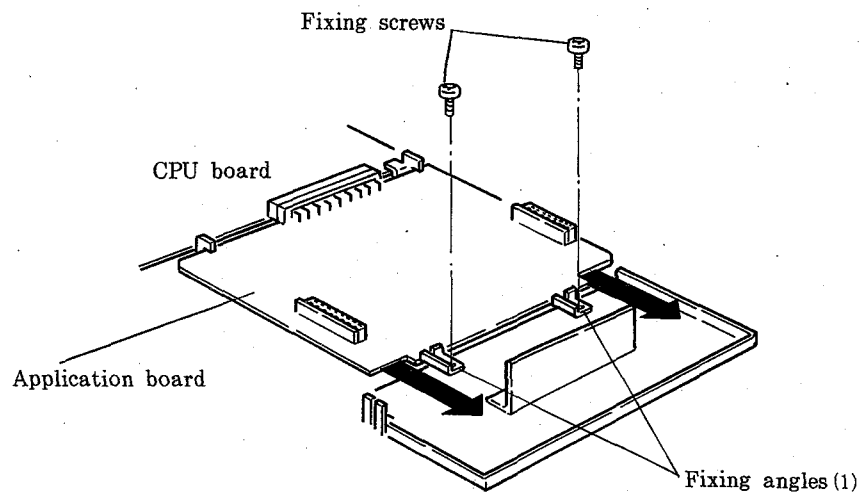

Fig.4
- c) Remove the fixing screws (2 pcs.) of the application board. (See Fig.4 below.)
- d) Pull the fixing angles (1) of the application board in the direction of arrows to disconnect the application board from the CPU board. Then lift the fixing angles (1) to remove the application board. (See Fig.4 above.)
- (4) Check or set as follows the switches on the additional memory board which is to be connected.